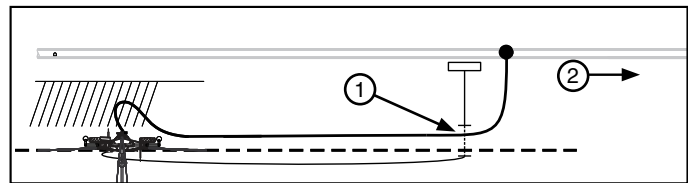

Figure 47-3 1. Buried Cable
- (b) As the swivel inlet pivots the hose is pushed out away from the cart and guided by either the side walls of the cart tires or the optional hose bumpers. See figure 47-3.